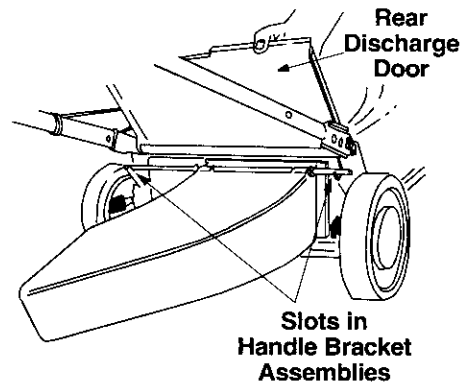

Figure 11
- Place the ends of the rod into the slots in the handle bracket assemblies. See Figure 11.